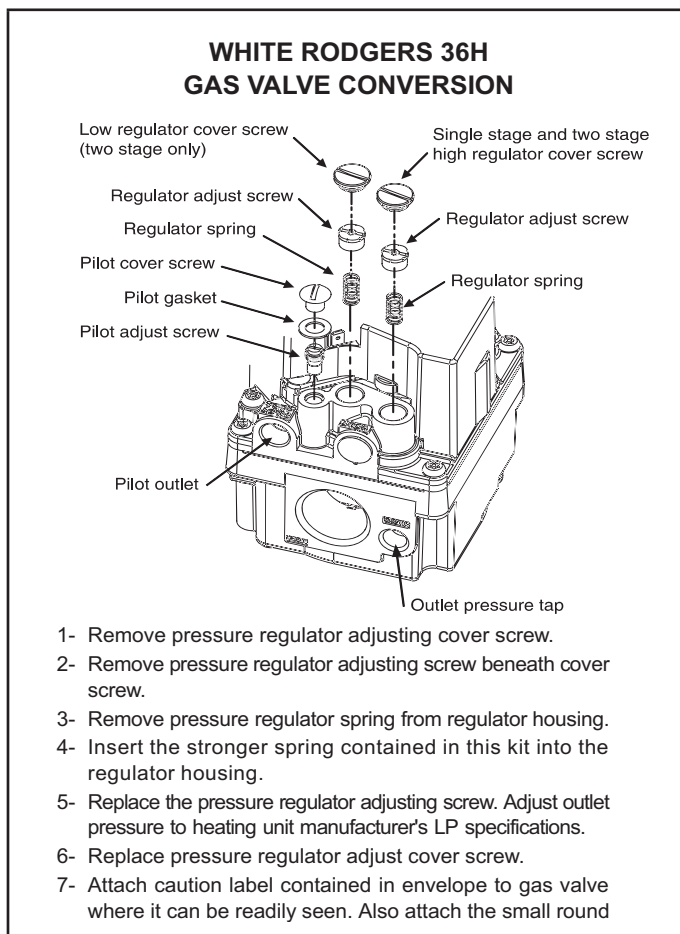

Figure 2
- 8 - Install gas valve conversion kit. Refer to manufacturer's instruction packed in valve conversion kit. See figure 2.
2 - After gas line pressure has been checked and adjusted, check manifold pressure at the pressure tap on the outlet side of the gas valve. The correct manifold pressure for natural gas is given in tables 2 or 3. Refer to figure 2 for gas manifold pressure adjustment screw location.